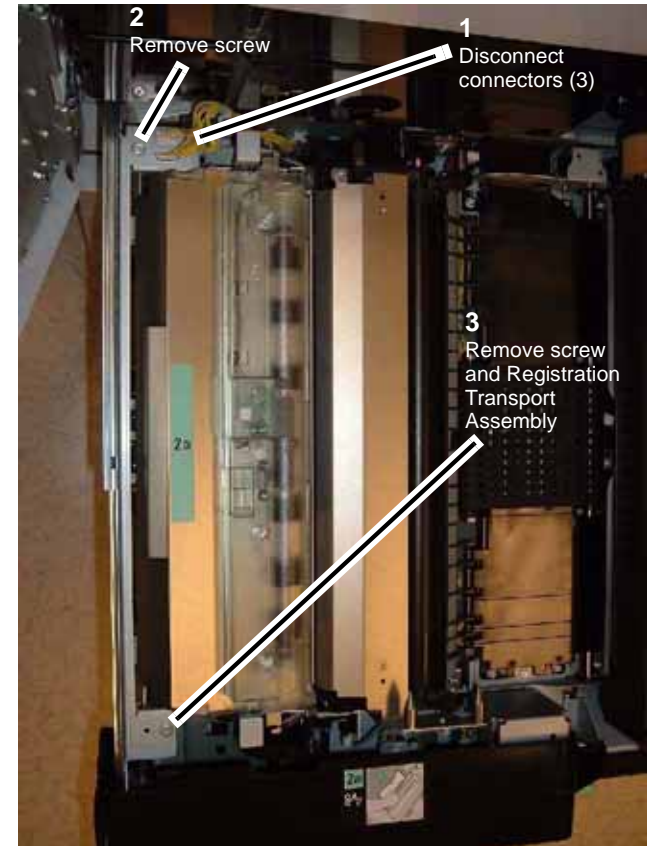

Figure 2 Removing the Registration Transport Assembly
3. Remove the Registration Transport Assembly (Figure 2).